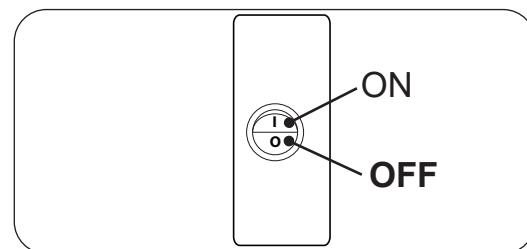

Fig. 33-1 Switch box, ON/OFF
1. Locate the ON/OFF switch at the front of the switch box. Press the switch to the **OFF (O)** position. See Fig. 33-1.